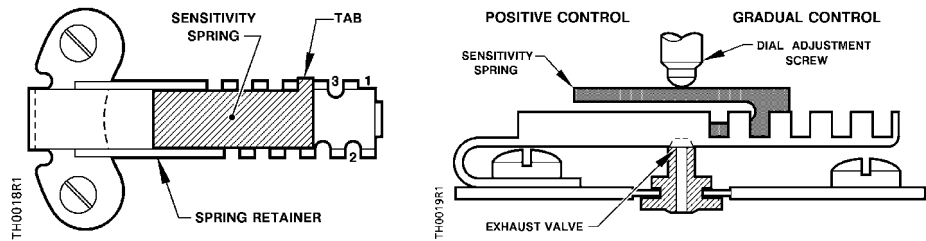

Figure 10. Sensitivity Spring Setting.
3. Lightly press, but do not bend, the spring retainer. (Figure 10.)
4. Move the sensitivity spring to the new position. (Figure 10.) Table 2 gives the sensitivity spring tab location and the corresponding sensitivity value.